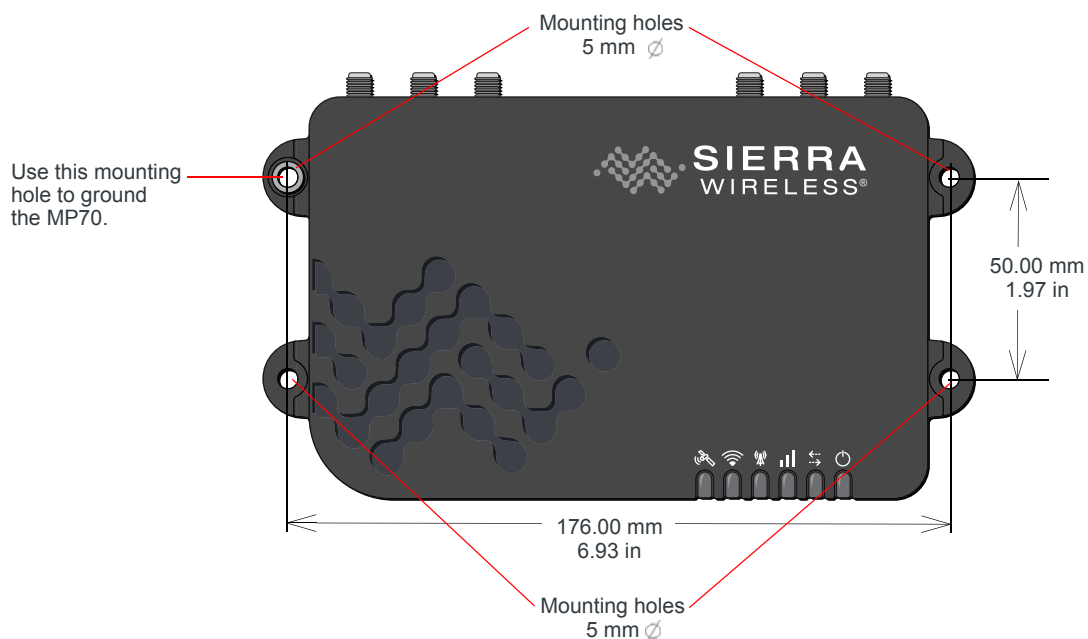

Figure 2-2: Mounting and Grounding the MP70
The MP70 has 4 mounting holes, as shown in Figure 2-2. Use the mounting screws that came with the MP70 to secure it in place.
- Connect one end of a short 18 AWG or larger gauge wire to the unpainted, upper right mounting hole (see Figure 2-2) and connect the other end to the vehicle chassis.